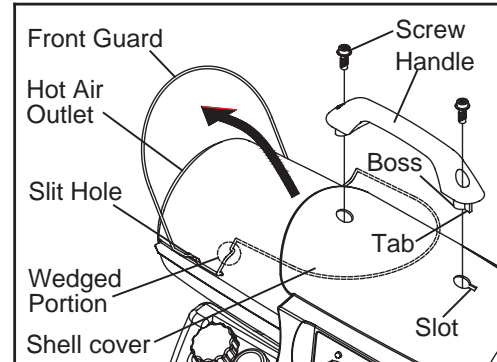

Figure 6. Handle Assembly
A. For RMC-KFA70TDGP Model only (See Figure 6,7)
- 2) Align boss on bottom of handle with the 2 holes on the shell cover as shown in Figure 6